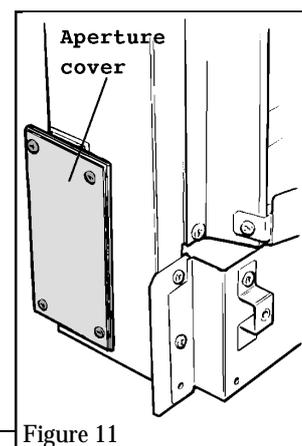

Figure 11
6.6.1 Remove the flue aperture cover and gasket and fit them to the left side (see figure 11). Be careful not to damage the gasket.